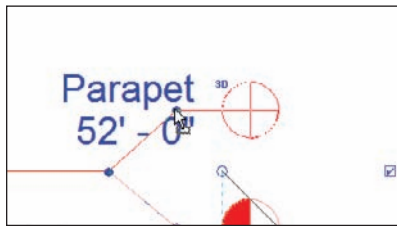

FIGURE 3.14 Dragging the level to a new position using the grips provided
3. Now that you added the elbow, you need to move it. Notice the blue grip at each bend point. Pick the blue grip, as shown in Figure 3.14, and drag the Parapet level out of the level below.